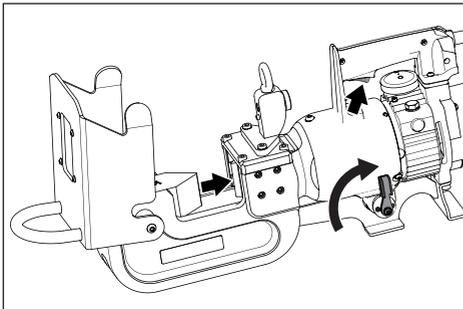

Figure 8, Retract Piston
- With the directional lever in position 2, press and hold the trigger to retract the piston and slide the moving blade rearward. See Figure 8.
Be sure that the piston and moving blade are located in the fully retracted “home” position before placing the chain inside the cutting head. See Figure 8.
3. Be sure that the piston is in the “home” (fully retracted) position. See Figure 8.